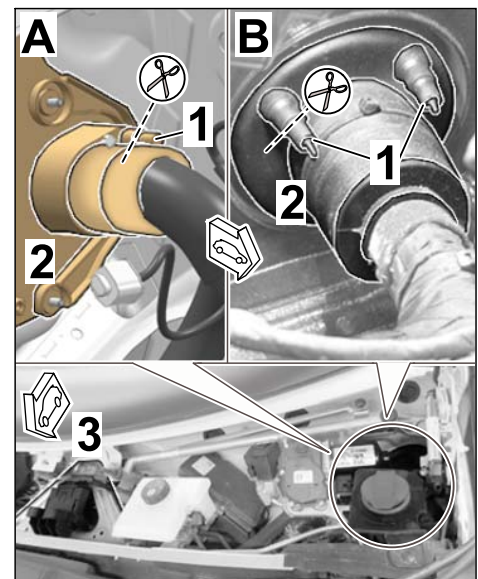

Figure 17
- 2.3.1 Cut off the cone (repair opening) on the grommet on the bulkhead (in the A-pillar plenum panel area – left) (⇒ Figure 17).
2.6 Seal the wire harness for engine noise at the bushing in the passenger compartment (grommet on bulkhead; A-pillar plenum panel area – left ⇒ *Figure 17*) from the inside and outside using adhesive sealant/sealing compound).